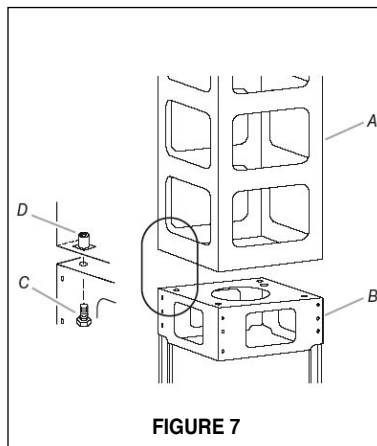

FIGURE 7
5. If using the High Ceiling Chimney Kit, remove the CHIMNEY COVER from the CHIMNEY EXTENSION (A in FIGURE 7). Position the CHIMNEY EXTENSION over the CHIMNEY SUPPORT (B in FIGURE 7) so that the outside edges and the electrical holes line up. Attach the CHIMNEY EXTENSION to the CHIMNEY SUPPORT using the 4 bolts (C in FIGURE 7). Tighten bolts securely.